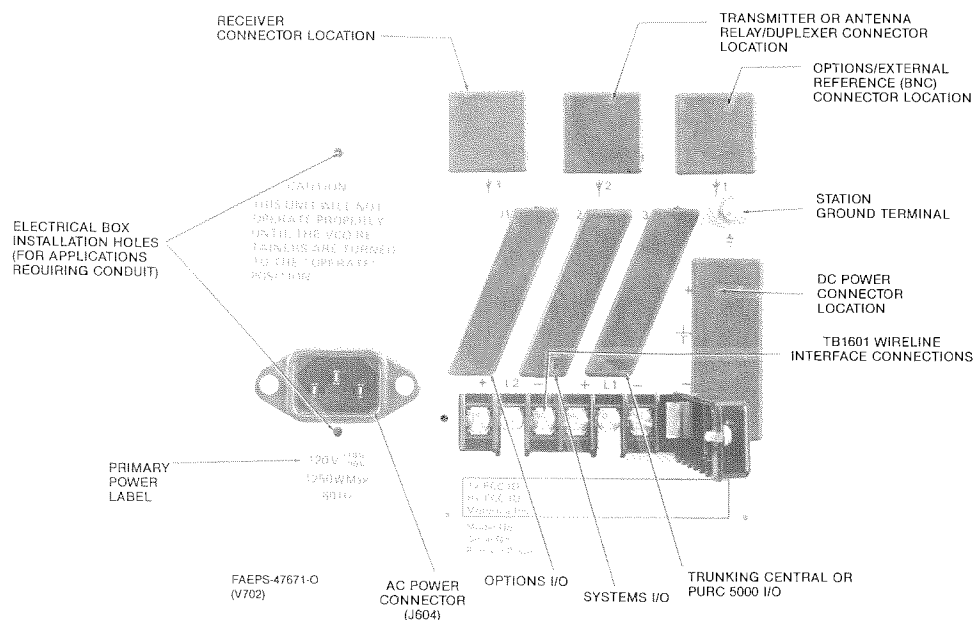

Figure 5. Connections for Low Power Junction Box
Stations stacked against a wall must be secured top and bottom as shown in the *Stacking Bracket* instruction section. Stations not stacked against a wall should be stacked **only** back-to-back as shown in Figures 5 and 7 of the stacking bracket instruction section and also should be stabilized by using the brackets provided in the TRN5757A Stacking Bracket Kit.
All coaxial antenna cables connect to the coaxial connectors located on the junction box. Two antennas may be required; one for the transmitter and one for the receiver. Refer to Figures 5 through 7 as applicable for antenna connection details. Type "N" connectors are used for all stations.
When the optional external site frequency standard is used, a coaxial cable fitted with a BNC type connector is required to connect the site frequency standard to station junction box. See Figures 5 and 6.
(Refer to Figures 5 through 7)
Step 4. Attach a 4-1/8" X 2-3/8" X 1-1/2" electrical box (Appleton Catalogue No. 184-E, universal code 69351 or equivalent box extension ring, not supplied) to the junction box using two No. 6-32 X 5/16" self-tapping washer head screws in the holes provided. Refer to Figures 5 and 6.